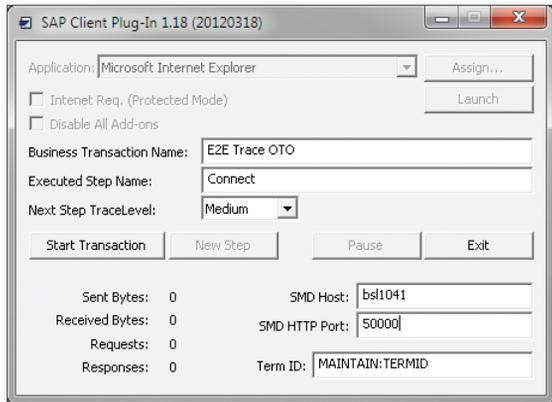

Figure 4.46 SAP Client Plug-In—Main Window
2. Use the previously downloaded .exe file to start SAP Client Plug-In. The plug-in unpacks some files and then opens the main window (see Figure 4.46). Select MICROSOFT INTERNET EXPLORER in the APPLICATION field and then choose LAUNCH.
5. In the EXECUTED STEP NAME field, you see the name STEP-1 as a default value. Change this if you want to specify another name for the first dialog step executed. In Figure 4.46, we chose the name CONNECT.